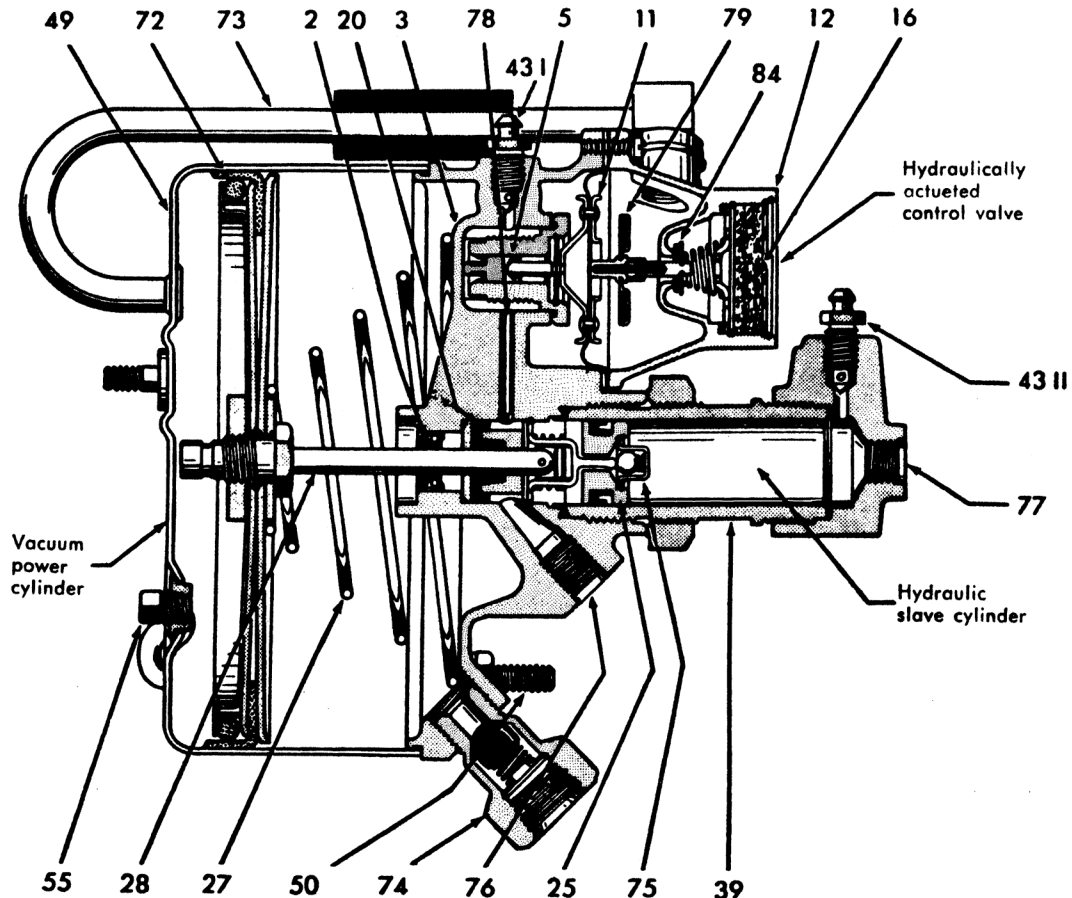

Fig. 2
The power brake unit T 50 consists of the following 3 main sections: (Fig. 2)
When lubricating, the engine should be off and power unit in released position. Remove plug (55), fig. 2, and add by means of an injection can mineral oil *) until it starts to run out through plug opening. Replace plug and tighten to prevent vacuum leakage.